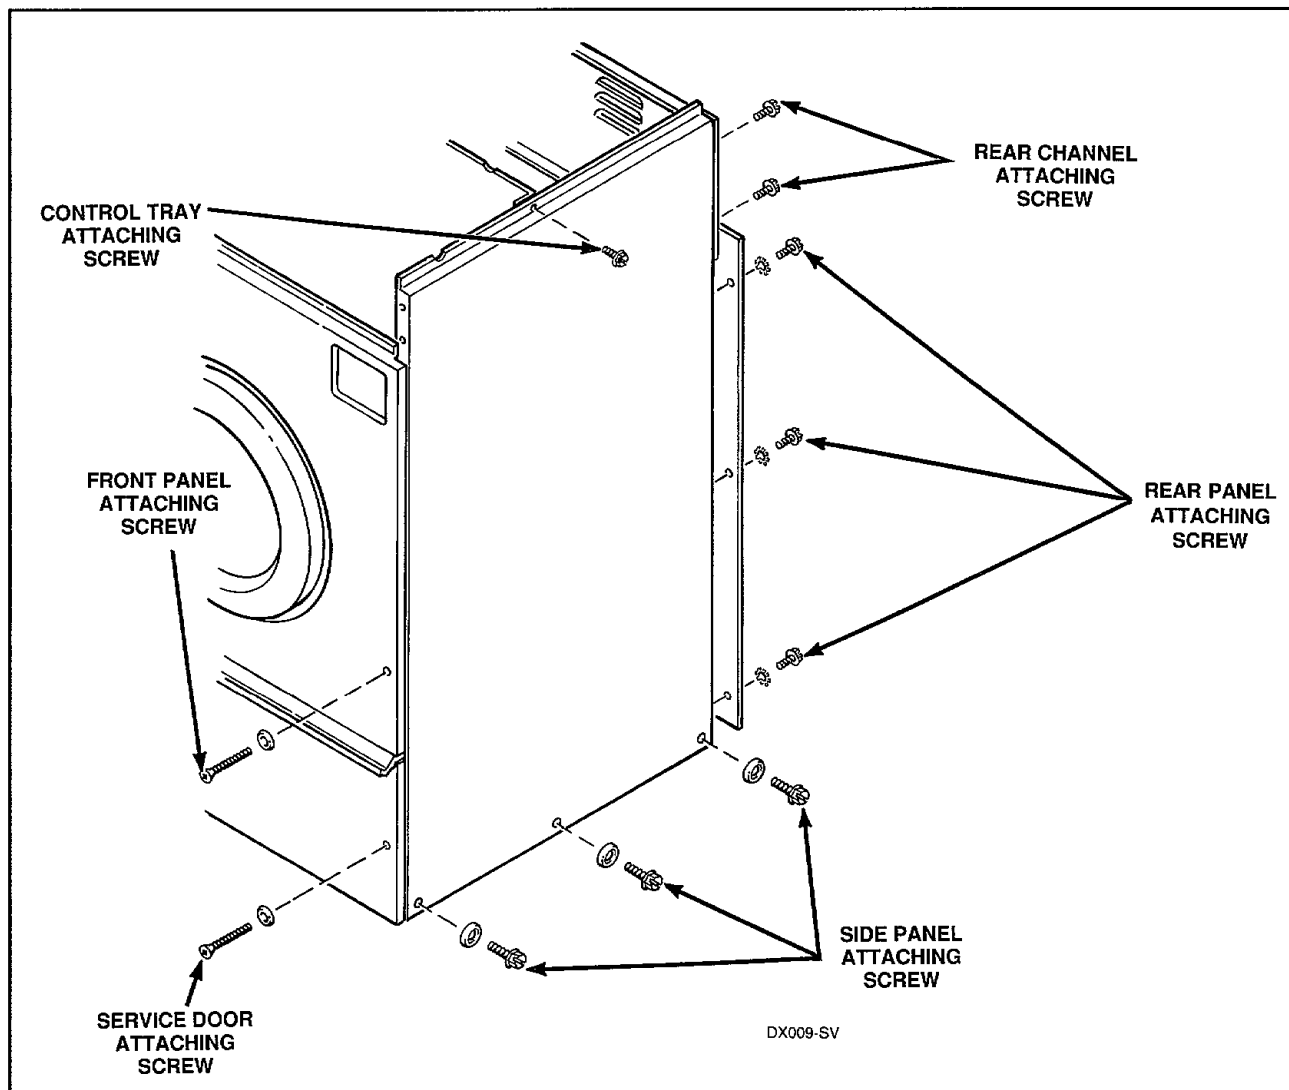

Figure 19
- d. Remove two screws and washers holding service door to washer side panels and remove door, *Figure 19*.
- e. Remove screws holding rear panel to washer side panels and remove rear panel, *Figure 19*.
- m. Remove screws holding both side panels to washer base, *Figure 19*.